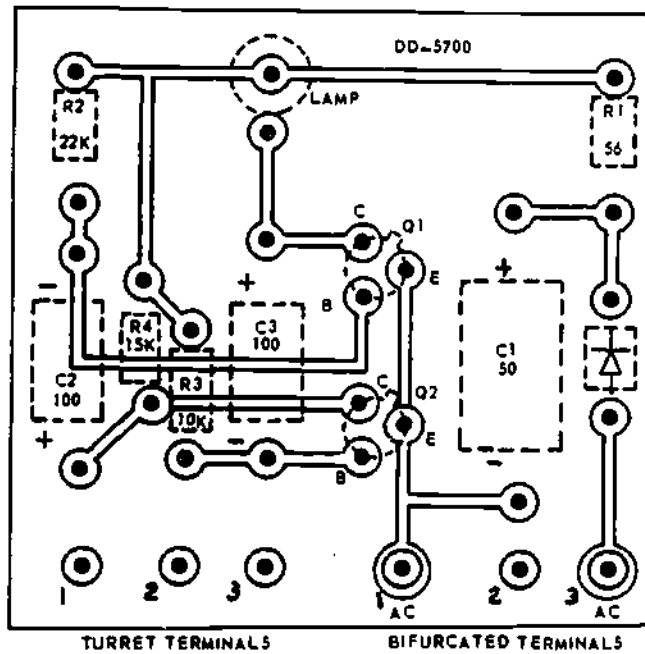

Figure 1. Printed Circuit Board REP4-2400
2. Using a tinned piece of wire and the long nose pliers, make a connection to SLOTTED TERMINAL 1 (See figure 1).